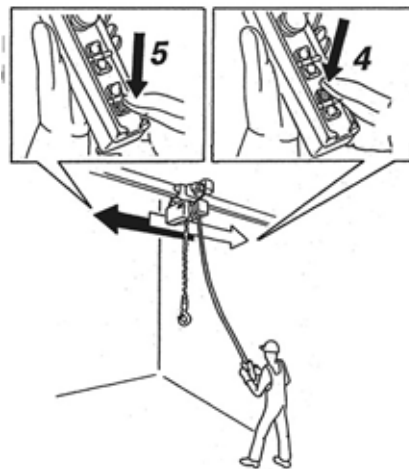

fig.44
12. For a hoist fitted with an EM electric trolley, press button '4' (right travel) and then button '5' to check that the directions match those on the push-button panel and the directional plates on the beam. (fig.44)